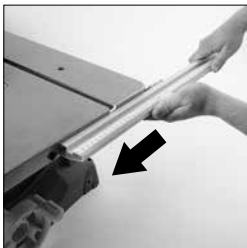

Fig. 4
- Slide the fence rail over the three protruding bolt heads (**Fig. 4**) until the right edge of the fence rail is aligned with the right edge of the table top and fully tighten the bolts.